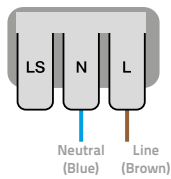

Fig 2
- For non-maintained operation please wire up the fitting as shown in fig 2.